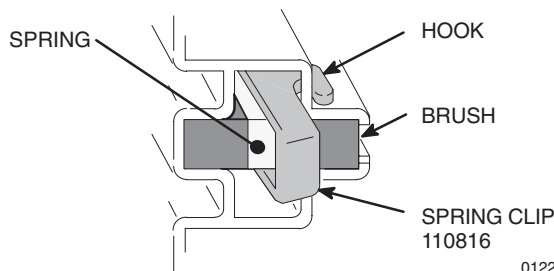

Fig. 10
3. Push in spring clip to release hooks from brush holder. Pull out spring clip. See Fig. 10.